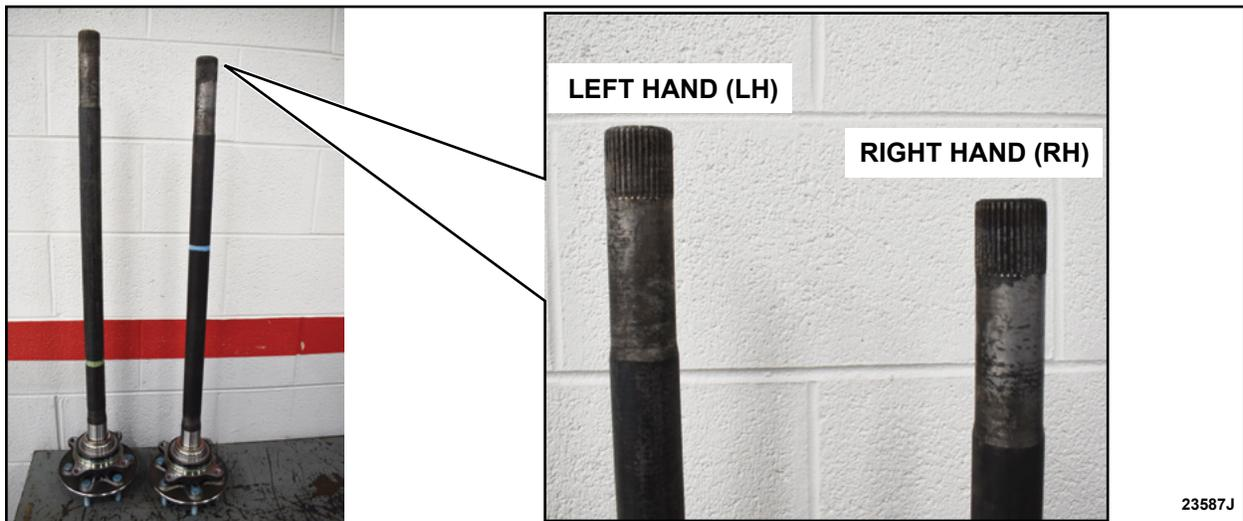

FIGURE 5
NOTE: The Right Hand (RH) side axle is shorter than the Left Hand (LH) side axle. See Figure 5.